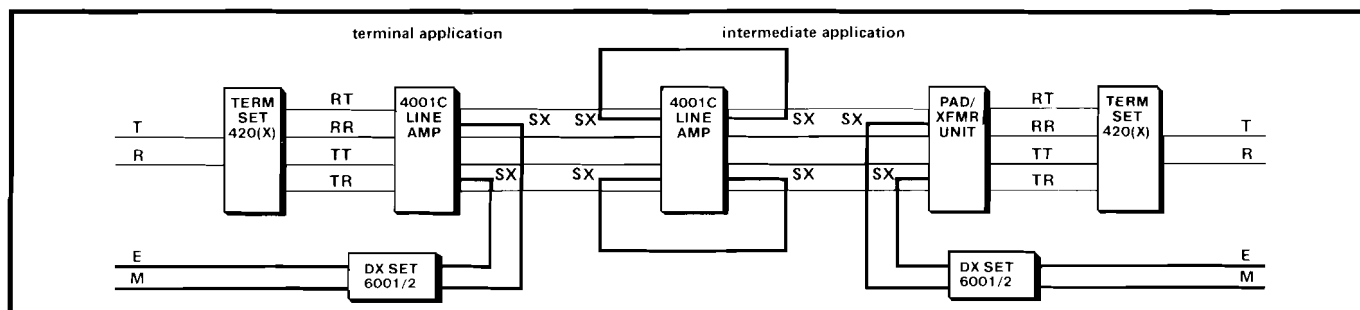

figure 5. Typical 4wire DX signaling application using 4001C Line Amplifiers
2.08 The 4001C contains two separate and independent 25mA sealing-current sources, one on the facility side and one on the terminal side of the module. In addition, all four impedance-matching transformers on the 4001C are center-tapped to derive balanced simplex (SX) leads. Option switches on the facility and terminal sides of the module afford a choice of four sealing-current and simplex-lead options, as follows:
- A third option is the derivation of normal simplex leads on either or both sides of the module. This allows the 4001C to be used on circuits employing DX, loopback, or other dc signaling schemes (see figure 5). Normal simplex leads can also be used to apply sealing current to a metallic facility from a local source external to the module.